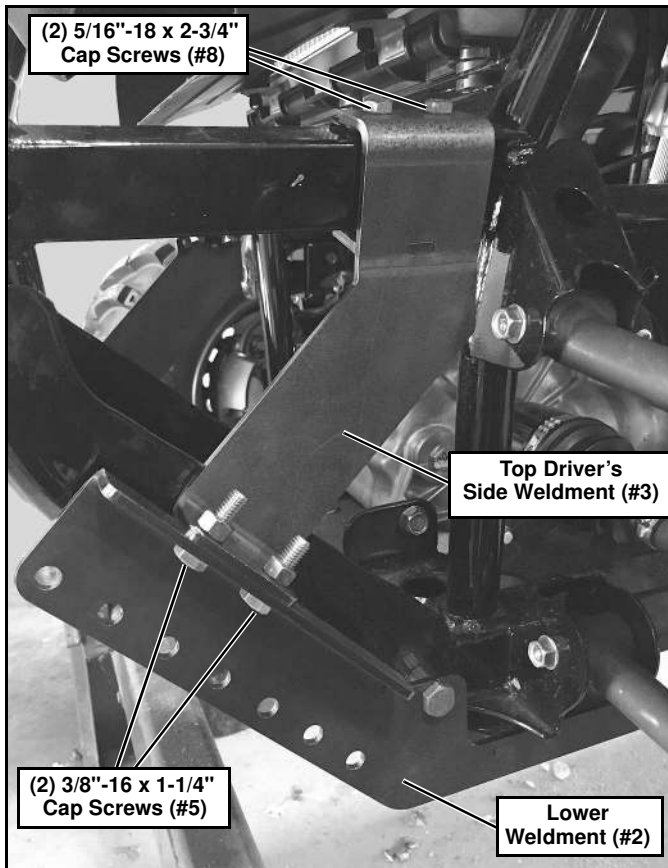

Figure 4
6. Place the U-shaped section of the Top Driver's Side Weldment (#3) over the frame where the brush guard is connected. The holes in the top of the Top Driver's Side Weldment (#3) align with the holes where the hardware was removed in step 5. (See Figure 4.)
7. Insert (2) 5/16"-18 x 2-3/4" Cap Screws (#8) through the top holes of the Top Driver's Side Weldment, frame, and brush guard. Secure with (2) 5/16"-18 Lock Nuts (#9). (See Figure 4.)
8. Insert (2) 3/8"-16 x 1-1/4" Cap Screws (#5) through the top holes in the Lower Weldment (#2) and into the bottom holes of the Top Driver's Side Weldment (#3). Secure with (2) 3/8"-18 Lock Nuts (#7). (See Figure 4.)